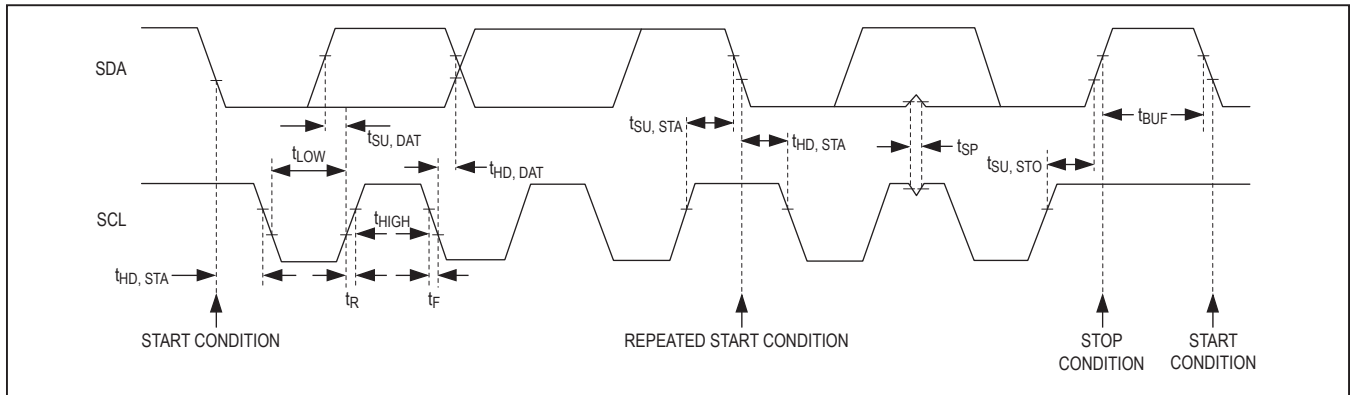

Figure 9. 2-Wire Interface Timing Diagram
The MAX9867 features an I2C/SMBus-compatible, 2-wire serial interface consisting of a serial-data line (SDA) and a serial-clock line (SCL). SDA and SCL facilitate communication between the MAX9867 and the master at clock rates up to 400kHz. Figure 9 shows the 2-wire interface timing diagram. The master generates SCL and initiates data transfer on the bus. The master device writes data to the MAX9867 by transmitting the proper slave address followed by the register address and then the data word. Each transmit sequence is framed by a START (S) or REPEATED START (Sr) condition and a STOP (P) condition. Each word transmitted to the MAX9867 is 8 bits long and is followed by an acknowledge clock pulse. A master reading data from the MAX9867 transmits the proper slave address followed by a series of nine SCL pulses. The MAX9867 transmits data on SDA in sync with the master-generated SCL pulses. The master acknowledges receipt of each byte of data. Each read sequence is framed by a START or REPEATED START condition, a not acknowledge, and a STOP condition. SDA operates as both an input and an open-drain output. A pullup resistor, typically greater than 500Ω is required on SDA. SCL operates only as an input. A pullup resistor, typically greater than 500Ω, is required on SCL if there are mul-